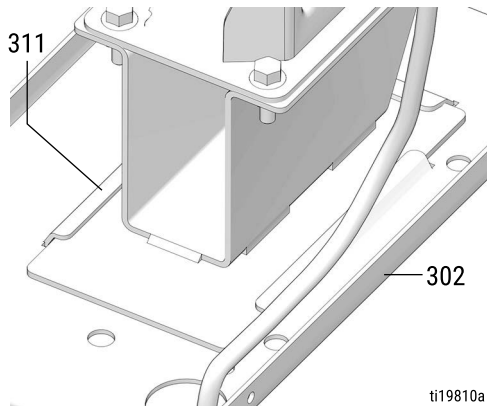

FIG. 16
5. Install the mounting bracket (311) into the slot of the mounting base (302) (FIG. 16).